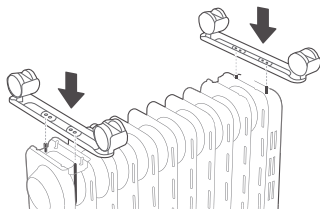

Figure 1
2. As shown in figure 1, align the mounting hole of a set of caster assembly and install it on the screw of the caster pad plate at the end of the radiator fin, and the other caster assembly is aligned to the screws mounted at the bottom of the control box.